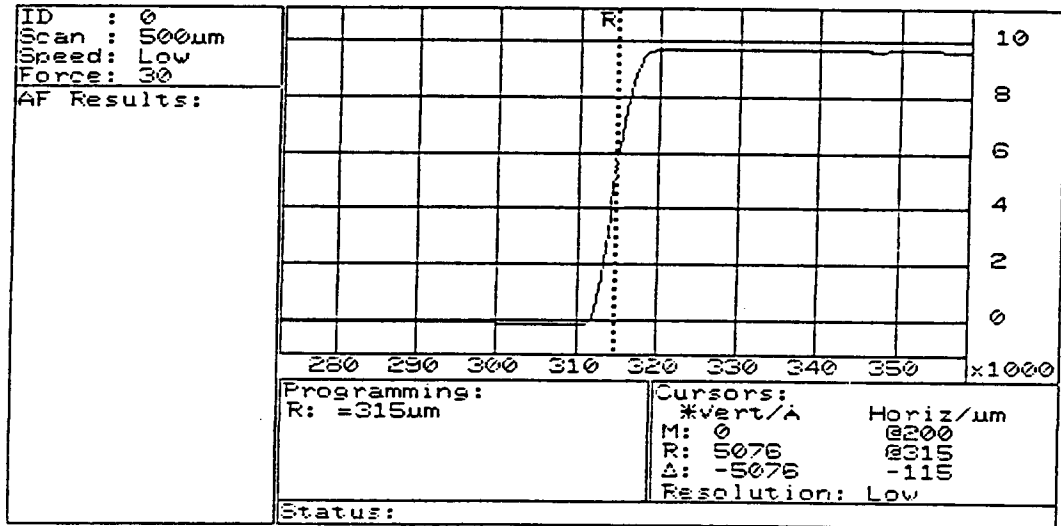

Figure 7-4. Step Midpoint
7. Position the R cursor so that it intersects the apparent midpoint of the step (Figure 7-4). Note the horizontal location of this midpoint.